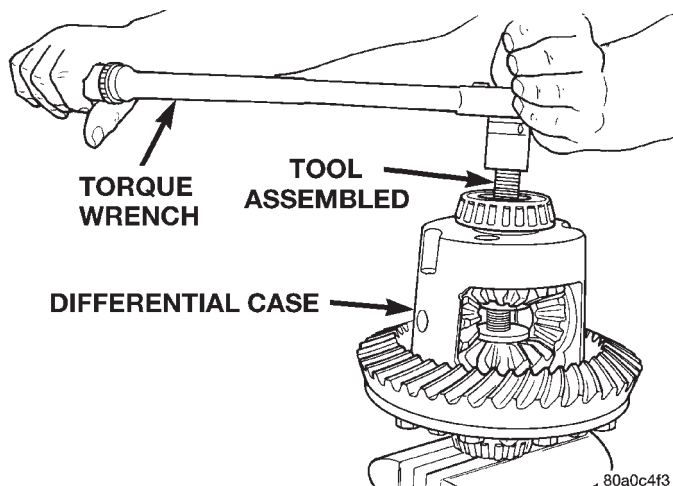

Fig. 57 Tighten Belleville Spring Compressor Tool
(9) Tighten forcing screw tool 122 N·m (90 ft. lbs.) maximum to compress Belleville springs in clutch packs (Fig. 57).